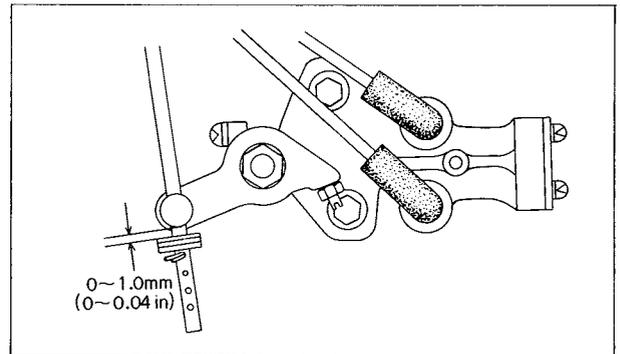

Fig. 2-18 Connecting rod setting
4. Check the clearance between the pump lever and the washer as shown in Fig. 2-18. The clearance should be 0 ~ 1.0 mm (0 ~ 0.04 in). If necessary, adjust it by using a suitable washer.